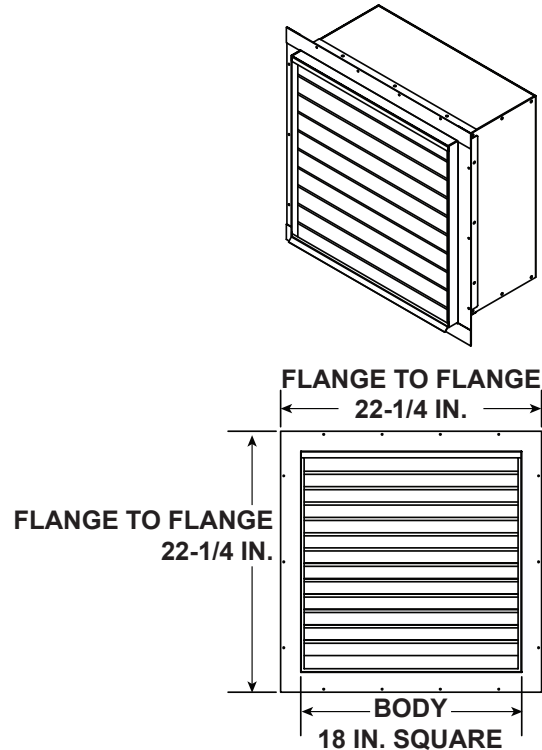
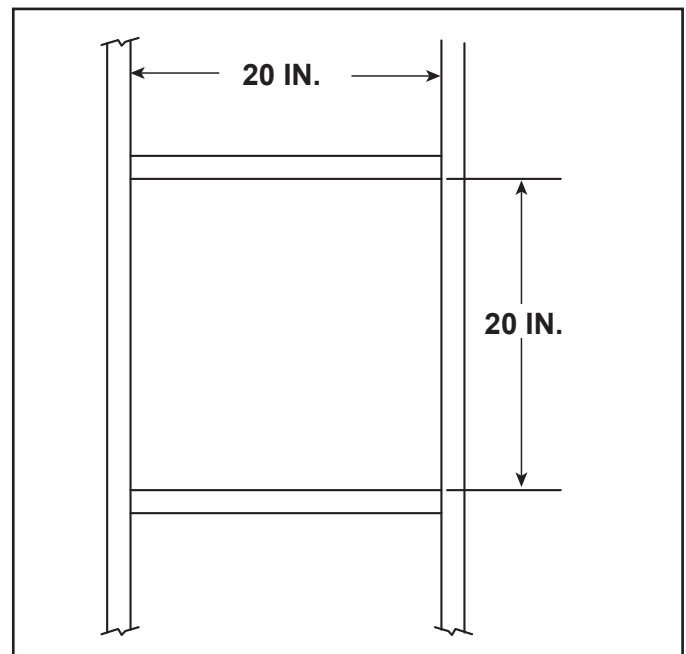

Figure 1 Louver Assembly Dimensions
Figure 2 Framing Dimensions
1. Using appropriate framing materials, construct a square frame measuring 20 inches x 20 inches in the location intended for the louver installation. See Figure 1 and Figure 2 for dimensions of louver assembly and framing.